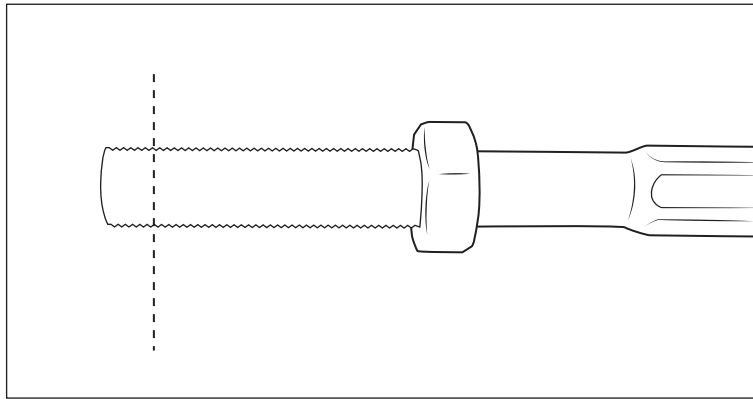

Figure 12
- B. If reusing factory outer tie rod ends, the inner tie rod ends will need to be trimmed slightly to allow correct toe in. Carefully trim $\frac{1}{4}$ " off threaded end of inner tie rod (fig. 12) Clean and deburr end of threads and reinstall factory outer tie rod ends. Snug jam nuts into place, they do not need to be fully torqued because vehicle will need front end alignment.